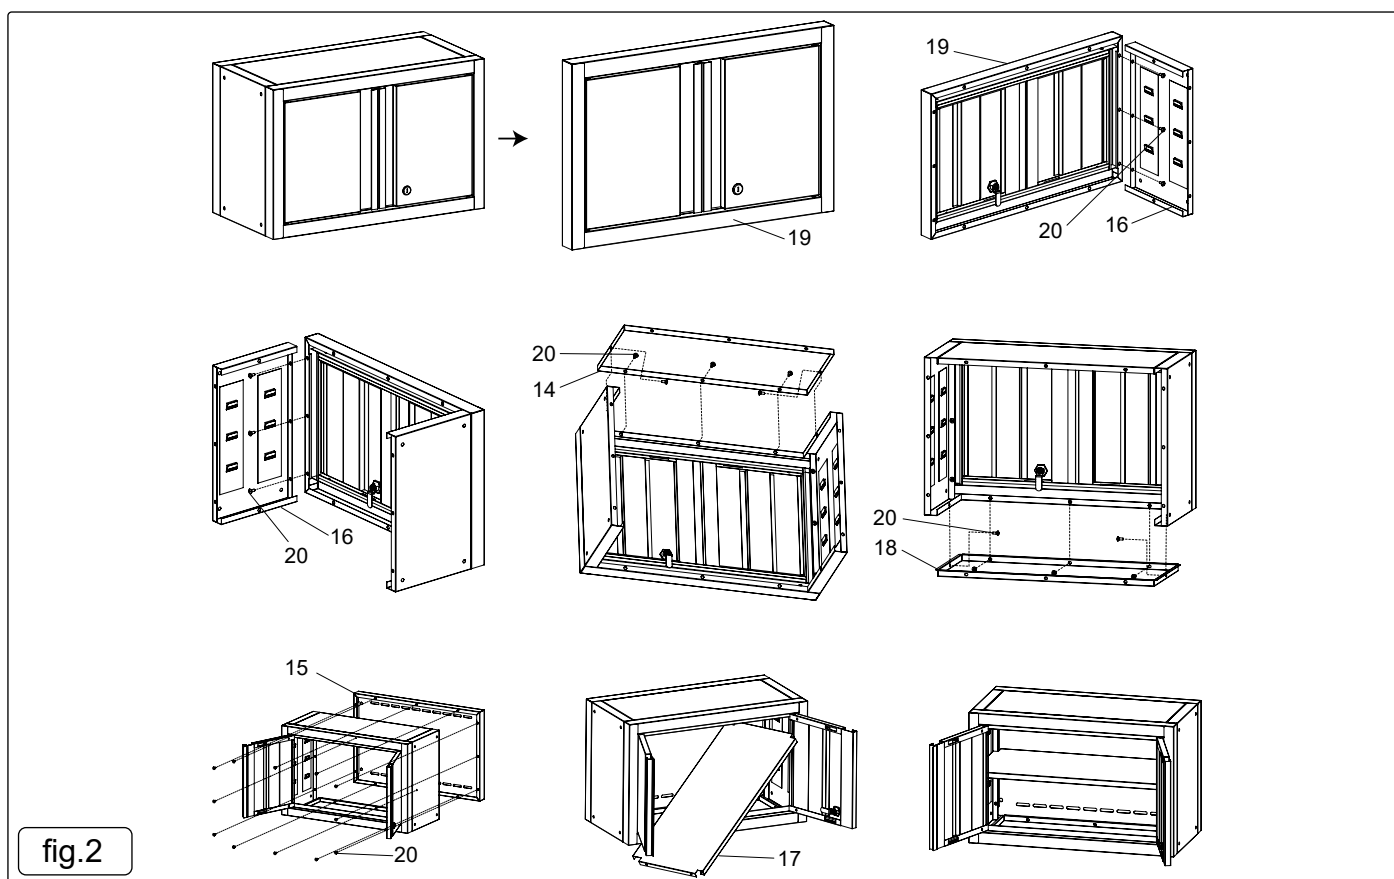

fig.2
5.2. WALL CABINET ASSEMBLY (fig.2)